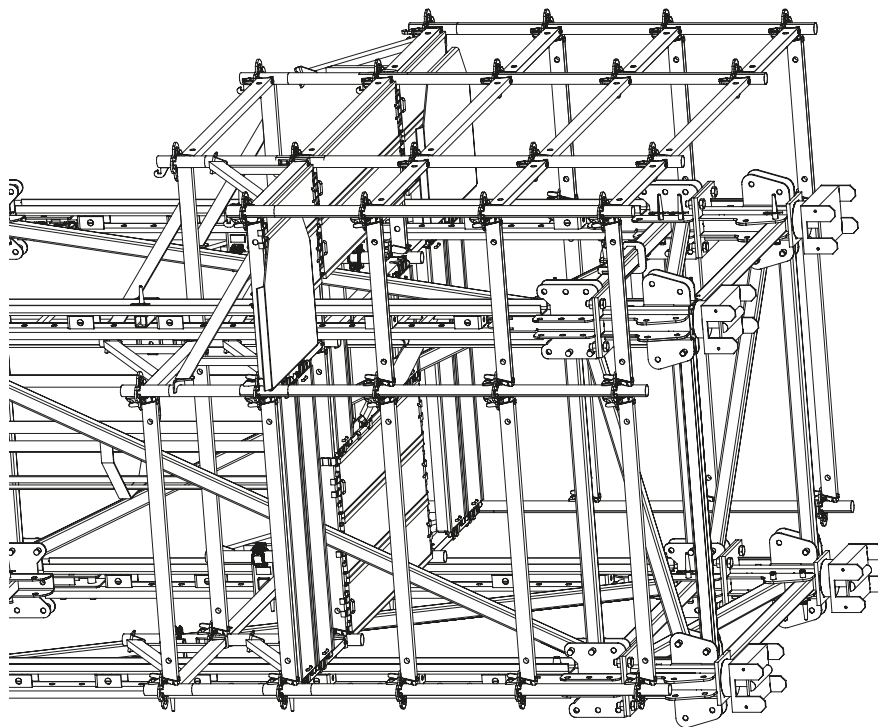

Fig. A1.50
3. Mount scaffold on the three external sides according to the current version of the PERI UP Instructions for Assembly and Use. (Fig. A1.50)